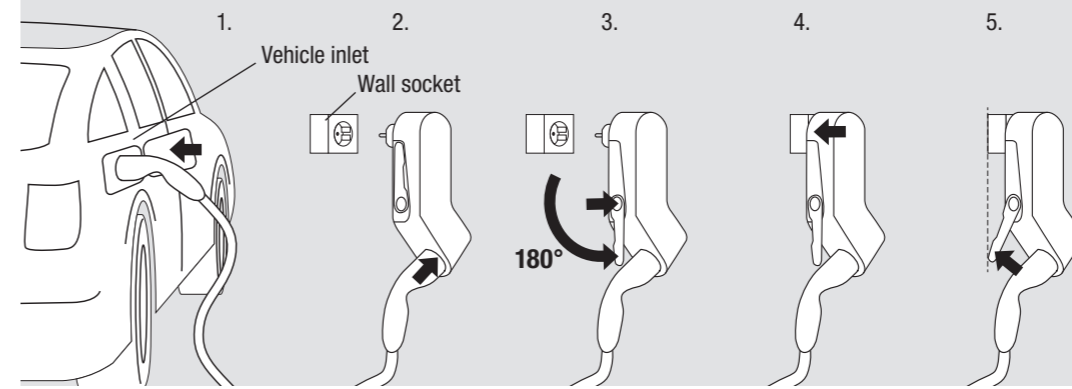

Fig. 2: Charging sequence
The Mobility Dock is a Mode 2 emergency charger for occasional, portable use. Permanent use only in a safe, motionless and vertical position. Operation only on mechanically and electrically suitable, wall-mounted sockets (see fig. 2, step 5)!
- Only operate the Mobility Dock vertically suspended and supported on a wall socket to avoid pulling on the wall socket (see fig. 2). Heavy loads can damage the Mobility Dock and/or the power socket.
- Do not plug the Mobility Dock into the socket until the charging plug is engaged in the type 2 outlet (C). Otherwise the wall socket may be damaged.